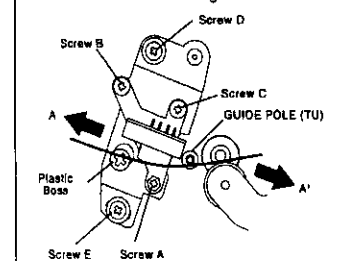

Fig. 3-4-1
- 12 Push the A/C HEAD to the right and left (in the direction of A-A' in Fig. 3-4-1) and then release the A/C HEAD. Check that the amplitude of the FM waveform does not change from that before shifting the A/C HEAD.
- 13 When the FM waveform varies in amplitude level, check the mounting position of the A/C HEAD UNIT. If the portion is incorrect, correct the position following item 2-4 "A/C HEAD UNIT" perform item 3-3 "Adjustment of A/C HEAD" and repeat this adjustment from the beginning.